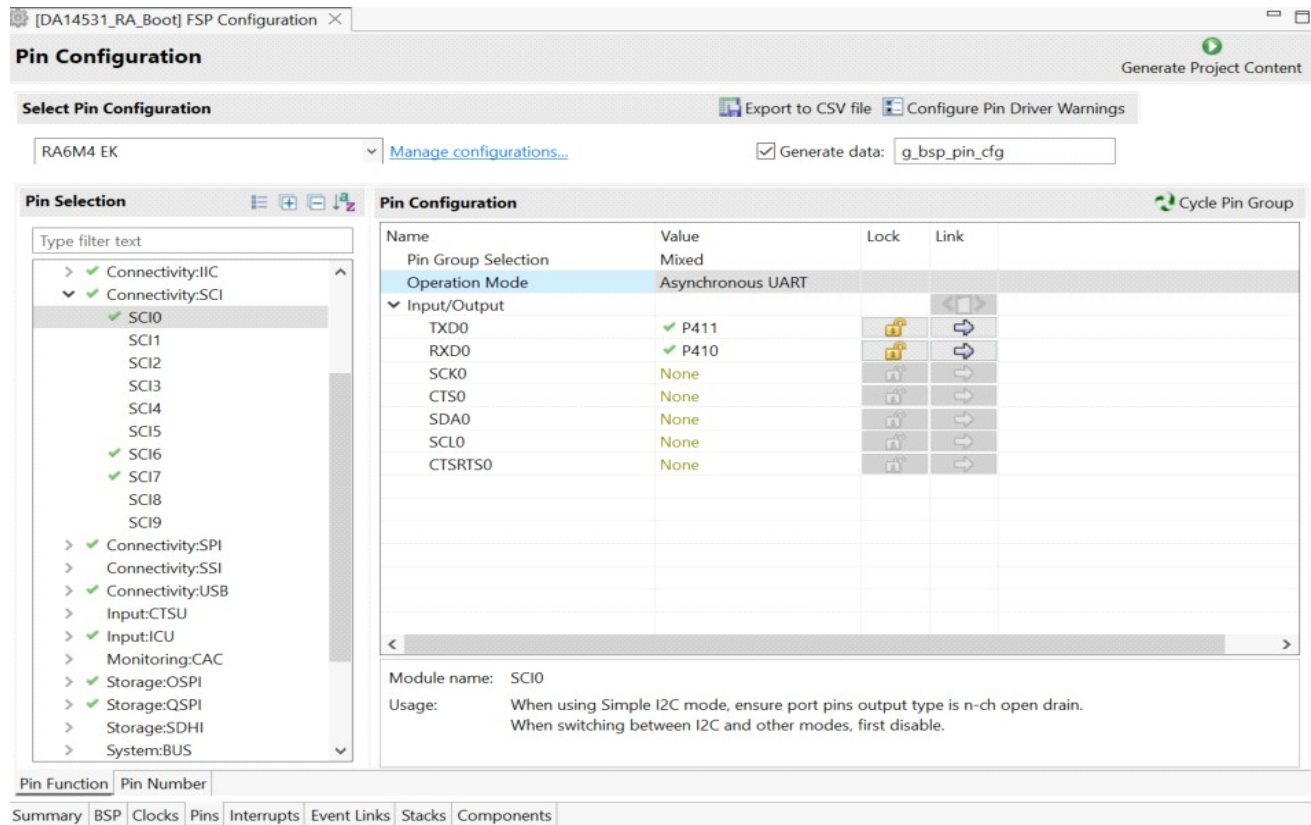

Figure 14. Pins Tab – Peripherals > Connectivity: SCI Group
15. Under the **Peripherals > Connectivity: SCI** group, select **SCI0**. Set the **Operation Mode** to *Asynchronous UART*. The **TXD0** and **RXD0** pins are automatically set to *P411* and *P410*, respectively (see Figure 14).